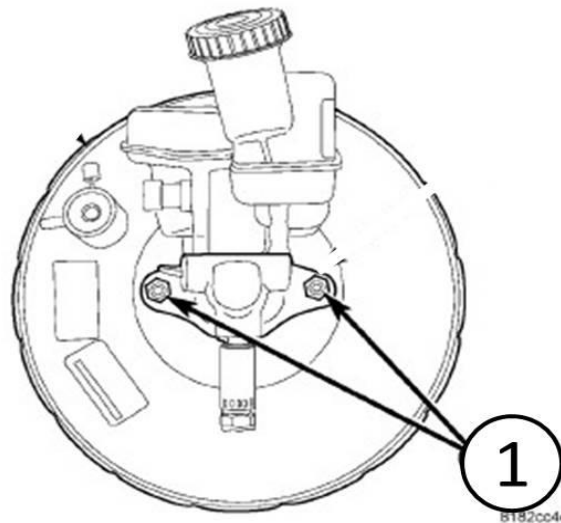

Fig. 2 Brake Booster
2. Remove the two nuts retaining the master cylinder to the brake booster and move it forward so the left front sunroof drain tube routing path can be accessed behind the left front strut tower (Fig. 2).